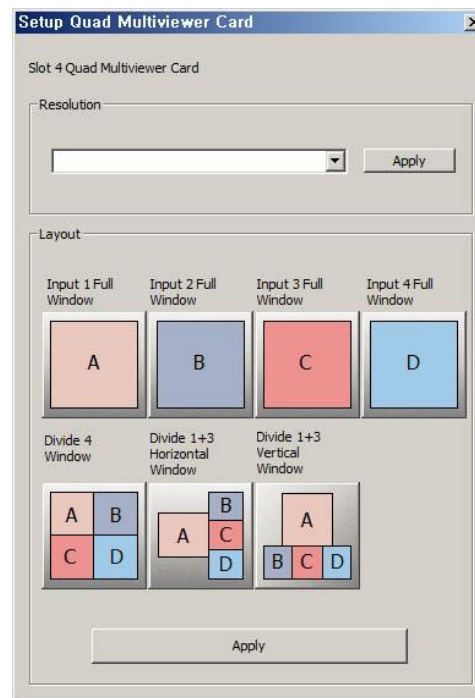

Fig 4-7 Multi-viewer card setup
- Click **OUT SLOT 4** bar to launch Setup Quad Multiviewer Card window as shown in Fig 4-7.